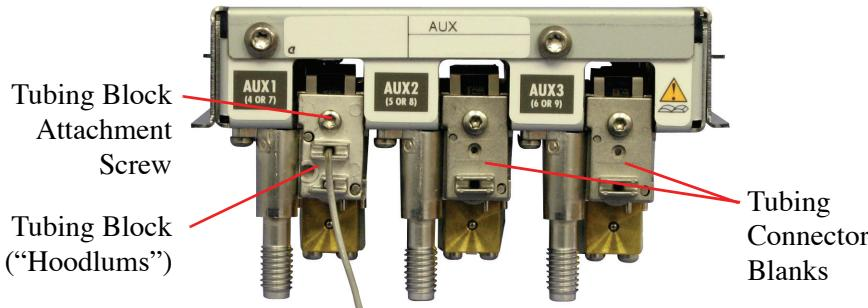
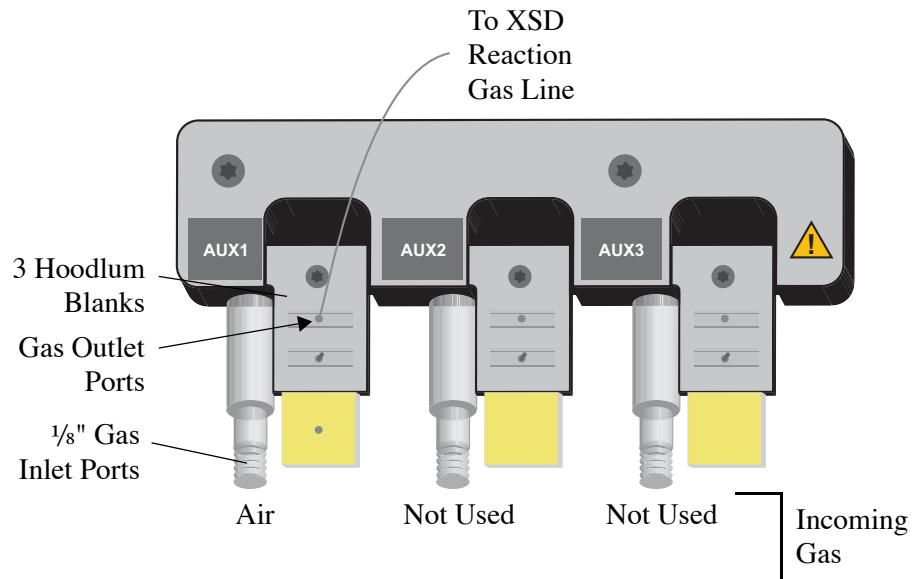

Figure 3.12. Aux EPC Module Tubing Connector Blanks
Figure 3.13. Aux EPC Plumbing for Standalone XSD with or without Venting
1. Remove the AUX1 tubing connector blank (refer to Figure 3.12) from the Aux EPC module to expose the O-ring and restrictor (leave the other two blanks in place).
3. Attach the tubing blocks (hoodlum block assembly with integrated $\frac{1}{16}$ " stainless steel lines) to each of the manifolds to be utilized and tighten each screw (refer to Figure 3.12 and Figure 3.13 or Figure 3.12).